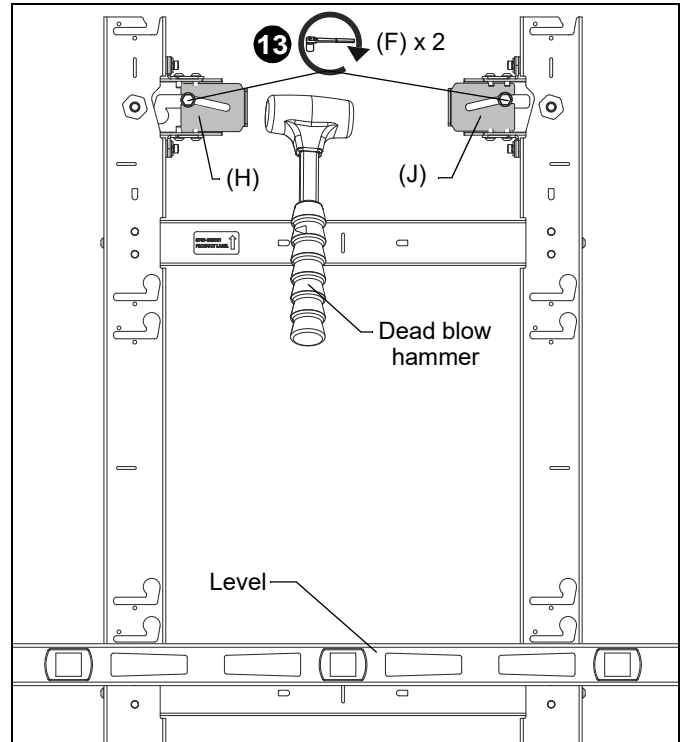

Figure 10
11. Check the level of the mount at the bottom of the teardrop slots. (See Figure 10)
12. If the mount is not level, slide or use a dead blow hammer to lightly tap the spacer into place. This will lift the mount up as the lag screw rides in the washer's angled slot. (See Figure 10)
13. When the mount is leveled, tighten the lag screws (F). (See Figure 10)